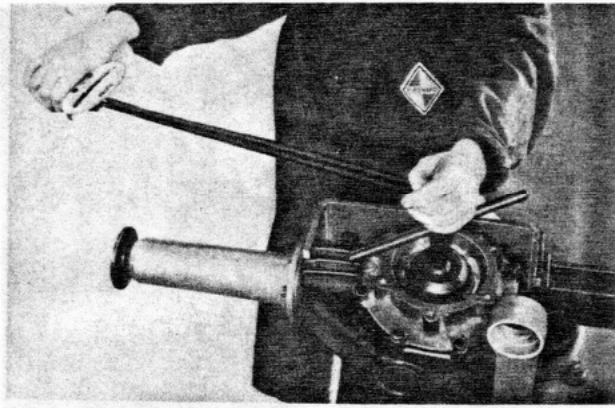

Fig.25
14. Tighten castellated nut on opposite side to a torque of 87 ft/lb (12 m/kg). The side clearance at the marked spot should then be .006" (0.15 m/m). If this is not the case, the nut must be re-adjusted to suit. Tools: - WK 139 and torque wrench (see Fig.25).